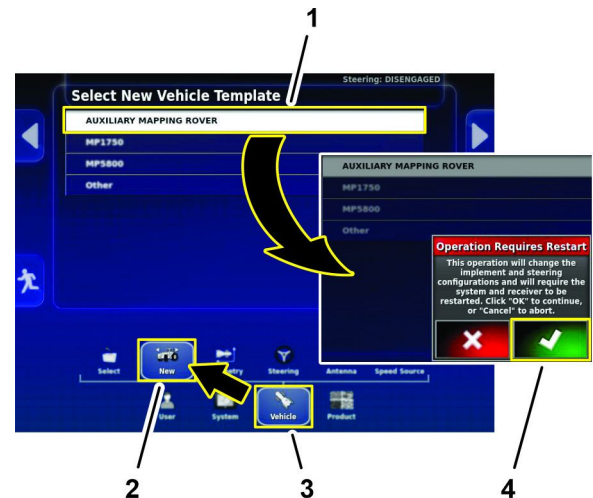

Figure 185
- On the Setup screen, press the VEHICLE icon and the NEW icon (Figure 185).
- On the select new vehicle template page, press the AUXILIARY MAPPING ROVER icon (Figure 185).
- In the operation requires restart dialog box, press the confirm icon (Figure 185).